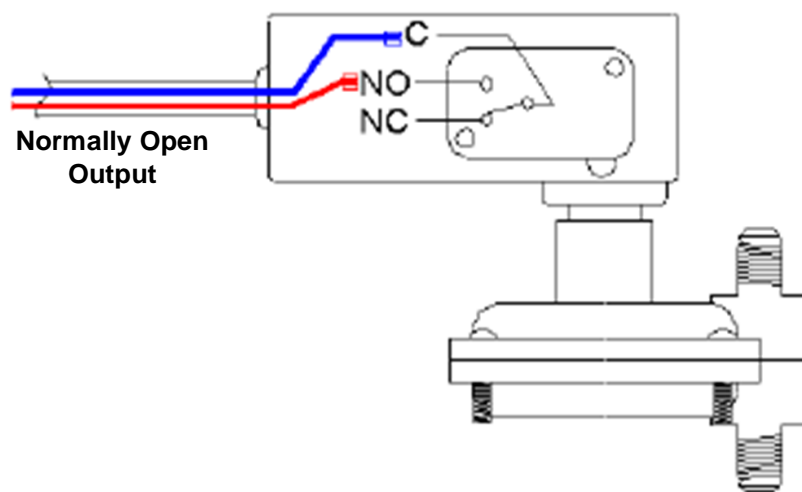

Figure 8 Differential flow switch wiring diagram
1. Differential flow switch has two wires connecting with the NO output. For inner wiring diagram, refer to Figure 8.